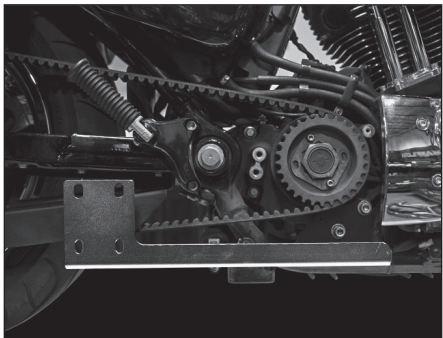

Fig 1
1. Install the supplied, MagnaFlow exhaust mounting bracket using the factory hardware (Figure 1).